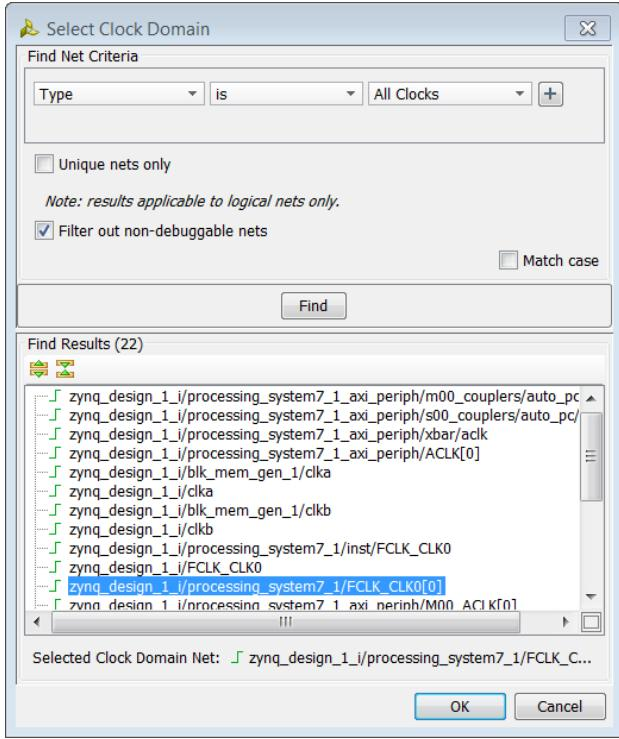

Figure 35: Select Clock Domain Option
5. In the Select Clock Domain window, select the zynq_design_1_i/processing_system7_1/FCLK_CLK0[0] net as the clock domain, and click **OK** (Figure 35).